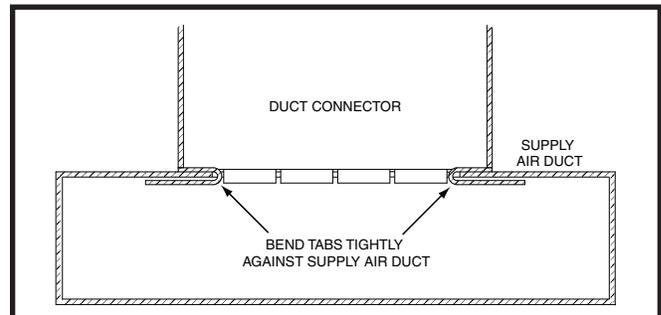

Figure 16. Duct Connector Tabs
- j. Bend both tabs on the mounting plate (Figure 16) up 90°.